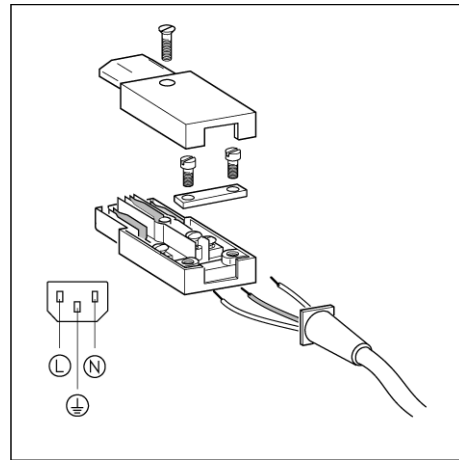

Fig. II.1 Wiring the power connector
**Wiring the power connector, see Fig. II.1**